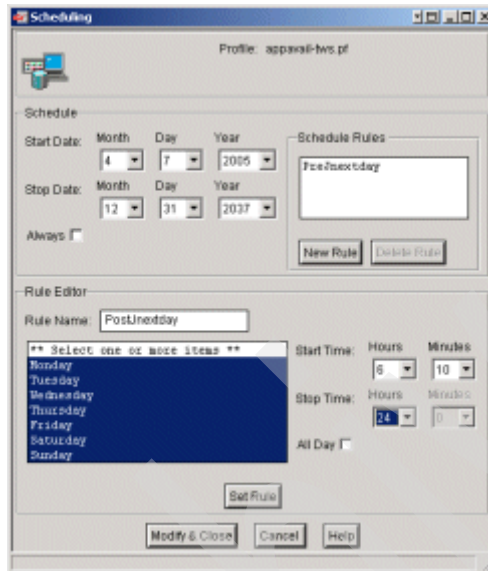

Figure 9-92 Configuring the PostJnextday scheduling rule
14. Select **New Rule**, enter PostJnextday in the Rule Name text field, select all days of the week in the list of days, set the Start Time to 6 hours and 10 minutes, and set the Stop Time to 24 hours (the minutes pop-up menu dims when you select 24 hours to indicate the midnight following the Start Time), as shown in Figure 9-92.